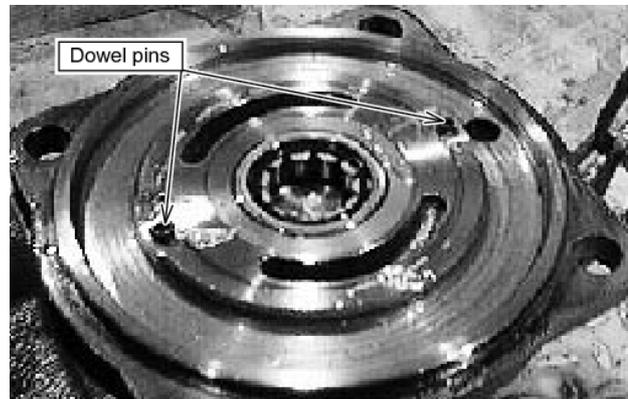

Fig. 8-14
12. Carefully place the top plate over the swing motor and align the dowel pins of the top plate with the holes in the distributor plate. See Fig. 8-14.